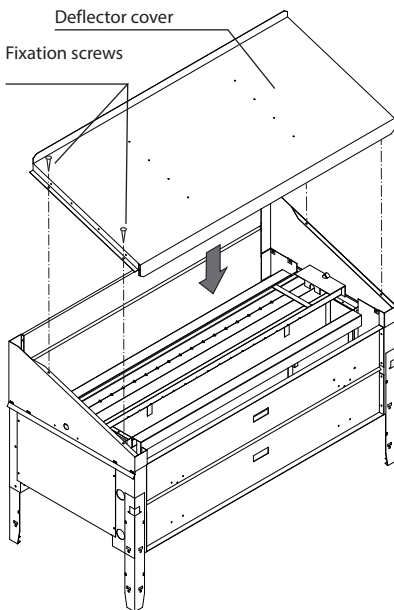

Fig. 7
8. Mount the deflector cover (Fig. 7)